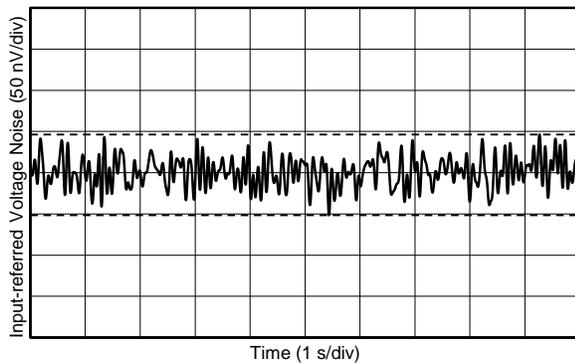

Figure 17. 0.1-Hz to 10-Hz Voltage Noise
0.1-Hz to 10-Hz Voltage Noise	<a href="#">Figure 17</a>